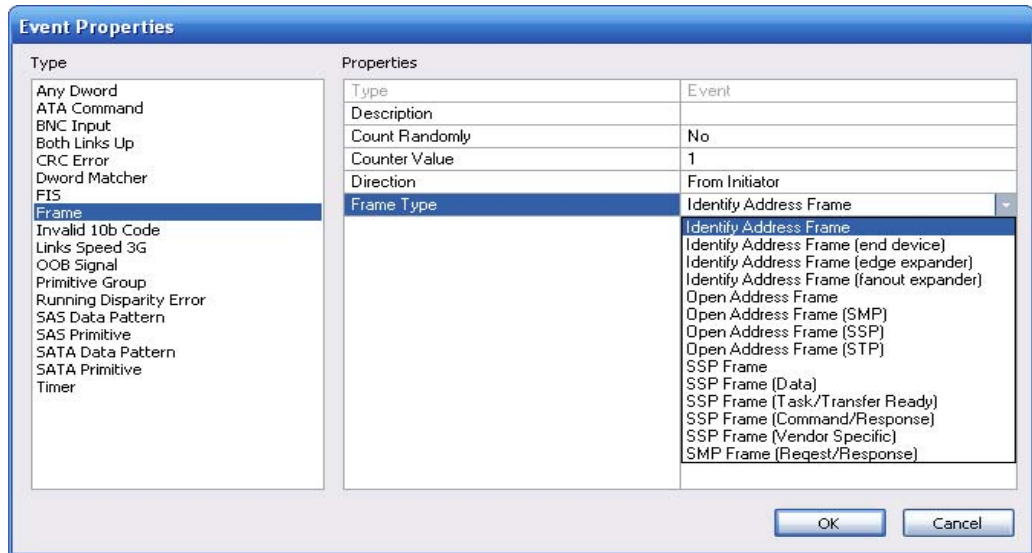

Figure 76 Example 7: Event Properties Dialog Box
Step 5 The Event Properties dialog box appears (Figure 76). In the Event Properties dialog box, select **Identify Address Frame** as the event.